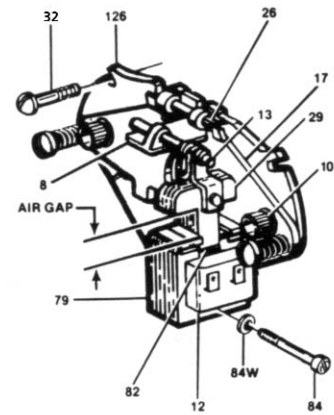

Figure 1. Motor Brake Adjustment
The motor brake should be checked periodically for wear of the friction discs and/or proper adjustment of the solenoid air gap. Refer to Figure 1. Normal lining wear will cause the solenoid lever (8) to move away from the solenoid frame (79) and thus increase the air gap and trolley stopping time.
#### Replacement of Coil (Refer to Figure 1 on page 17 and Exploded View Drawing on page 47).
2. Remove housing (3) from the brake and disconnect the coil wires from the cord.
3. Insert screw driver between support plate (126, Fig.1) and the top of lever arm (17, Fig.1). Wedge these apart and remove bearing pin (26, Fig.1) and solenoid lever (8, Fig.1) with link (13, Fig.1) and plunger (29, Fig.1).
4. Remove plunger guide screw (84, Fig.1) and both plunger guides (82, Fig.1). Slide old coil sideways out of the frame (79, Fig.1). If coil is difficult to move, tap lightly with a soft hammer.
5. Install new coil in the same relative position as the old coil and replace the plunger guides (82, Fig.1) and screw (84 and 84W, Fig.1).